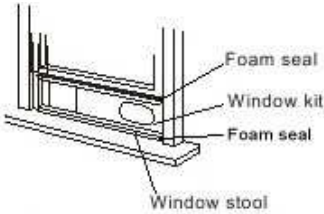

Fig.6
3. Trim another foam seal (adhesive type) to the proper length and place on top of the slider kit. (Fig.6)